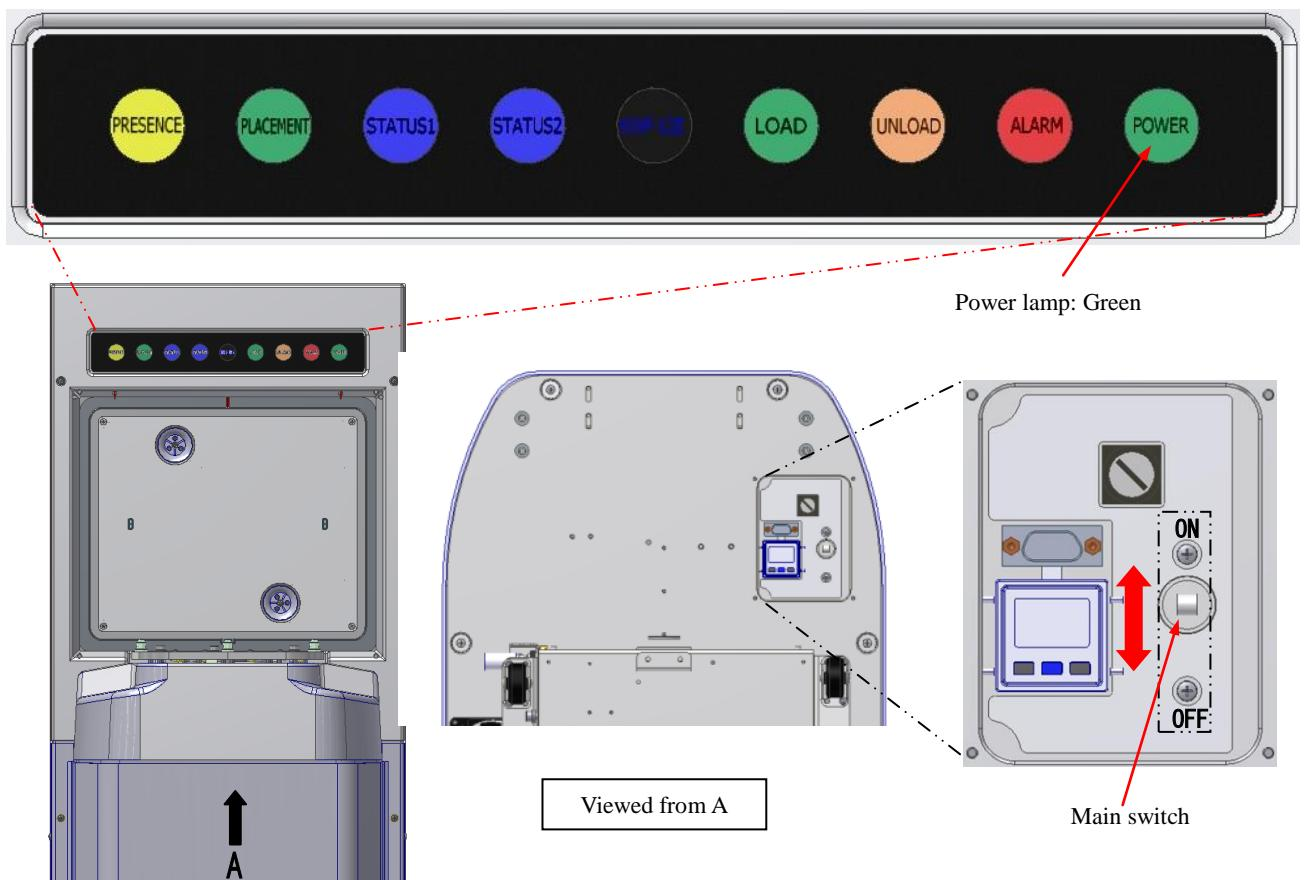

Fig 3.1 Turning ON the Power
- (1) Switch the main power switch shown in Fig 3.1 to the OFF side.
- (2) The power lamp (POWER) shown in Fig 3.1 goes out.
- (3) The power is now OFF.